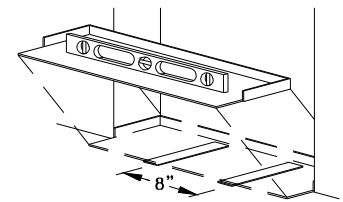

Figure 6:
5. Apply a bead of sealant that is compatible with the insulated glass seal to all four exterior corners as shown in Figure 6, Detail "A".
- Place sillpan into the opening and determine leveling (Figure 6) that must be done prior to installation.